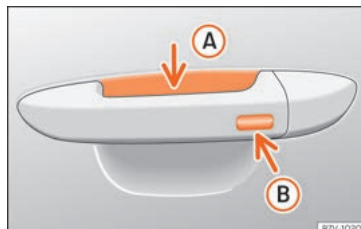

Fig. 150 Driver door lever: sensor surfaces.
- Press and hold the locking sensor surface »» Fig. 150 (B) on the door handle to close the sunroof. If you release the sensor surface, the closing movement stops.